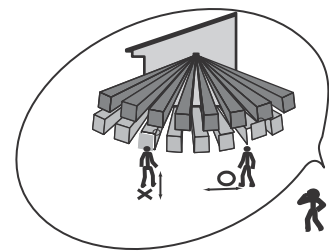

Fig. 3
4. Before mounting the PIR, please refer to Fig 3, 4 &5 to choose proper location and height for the PIR. The PIR should be mounted to detect majority of traffic flow across the detection pattern.